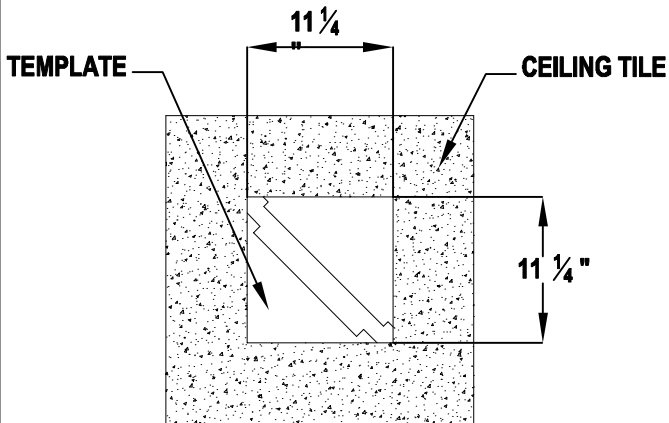

FIGURE 1
1. CUT OUT OUTSIDE SQUARE OF CARDBOARD TEMPLATE LOCATED ON LUMINAIRE BOX. USE TEMPLATE FOR CUTTING LUMINAIRE OPENING (11 1/4" X 11 1/4") IN DESIRED LOCATION IN CEILING TILE. (FIG. 1)